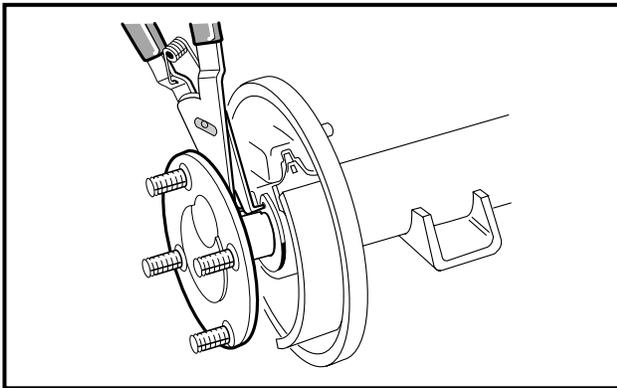

Figure 16-1 Axle Tube
3. Using 90° internal snap ring pliers, remove the internal retaining ring (6) from the axle tube (**Figures 16-3 or 16-4, Pages 16-3 or 16-4**). **See also Figure 16-1.**